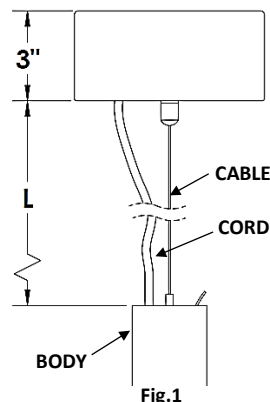

Fig.1
1. DETERMINE LENGTH (L). Fig.1